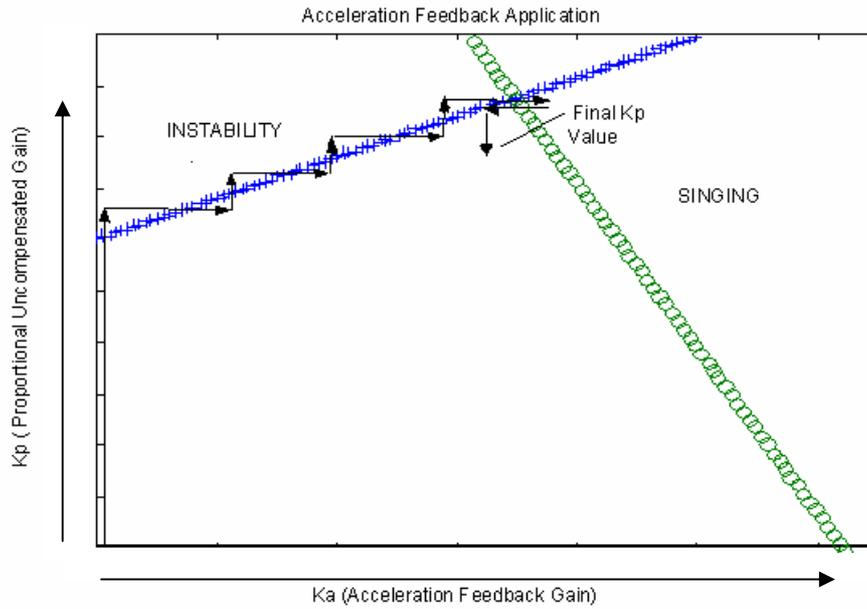
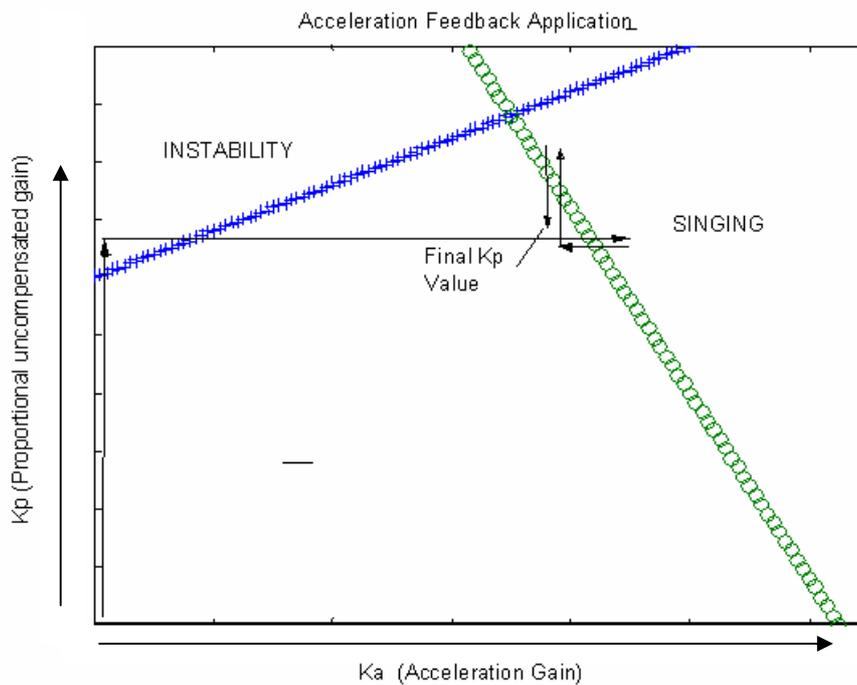

Figure 12
Figure 13
**NOTE:** It is necessary to increase the amount of acceleration feedback slowly in iterative steps as shown in figure 12, so that the maximum value of  $K_P$  can be found. This is in the peak between gain induced instability line and acceleration induced instability line. The consequence of increasing the acceleration feedback in one large step without increasing the proportional gain on intermediate steps is illustrated in figure 13, note the final value of  $K_P$  is far lower than in that obtained in figure 12.